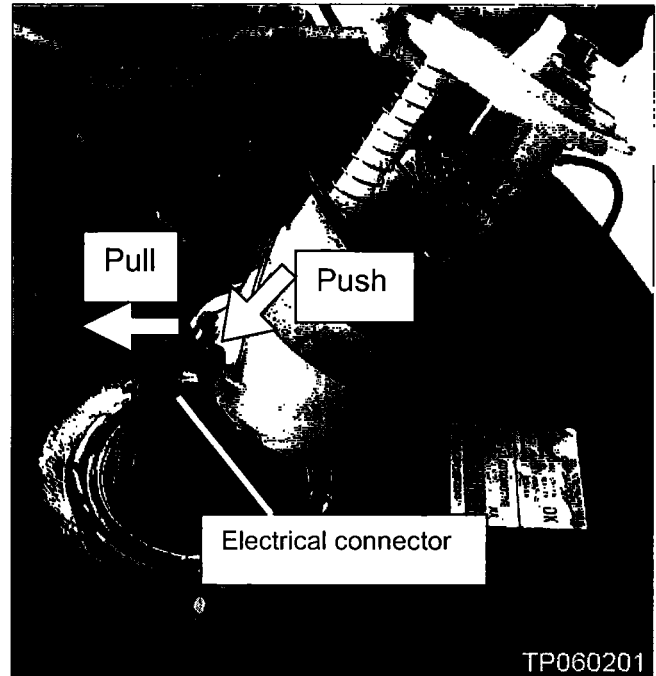

Figure 61
17. Disconnect the electrical connector shown in Figure 61.